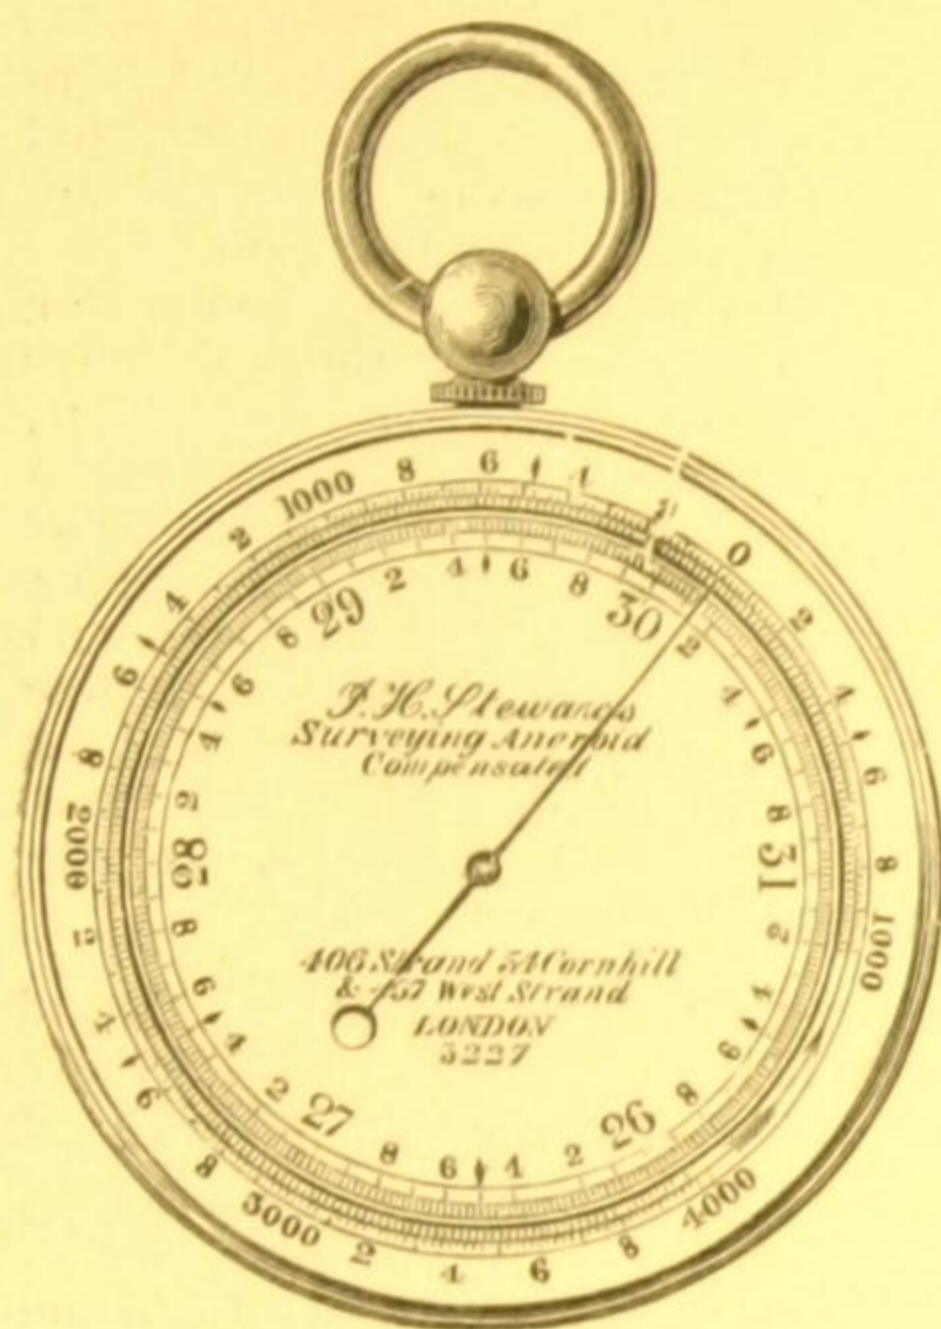

Fig. 112.
**Open Range Surveying Aneroid** for use in altitudes not exceeding 4,000 feet above sea level. This aneroid is of the same quality and construction as the surveyors' aneroids described on page 75. The mounts are of bronzed brass and the scales are divided on silvered metal. The movement is compensated and is not affected by changes of temperature. The altitude scale is movable and is divided into equal parts so that the zero can be set opposite the index hand at any altitude within the range of the scale without introducing errors and no calculations are necessary when measuring heights (see page 72). The scale is divided to every 10 feet up to 4,000 feet. Fig. 112.